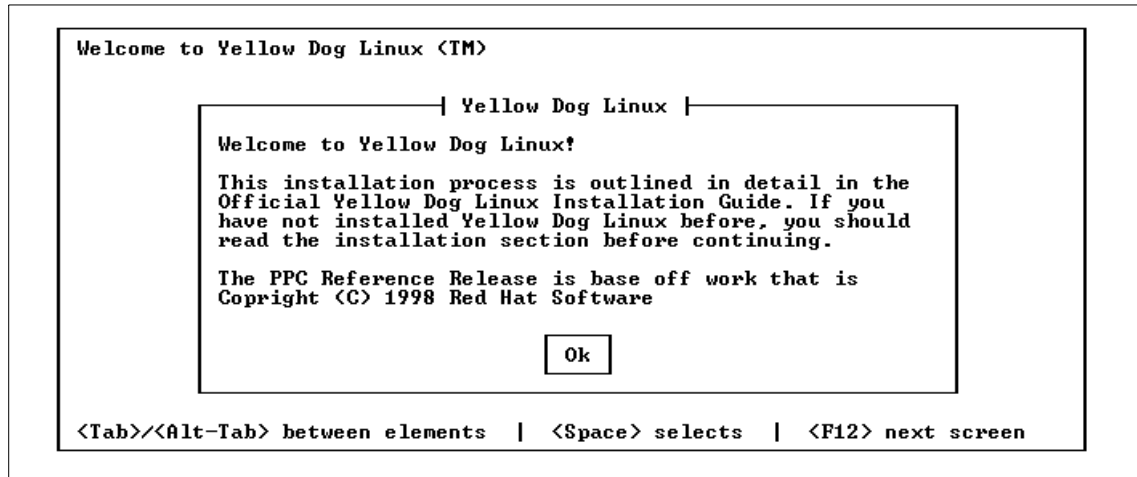

Figure 24. Yellow Dog Linux Welcome Screen
4. The boot process should now start. The LED shows E14D -> LinuxPPC 2.2.10 and the Linux boot sequence is visible on the system display (console) as shown in Figure 24.